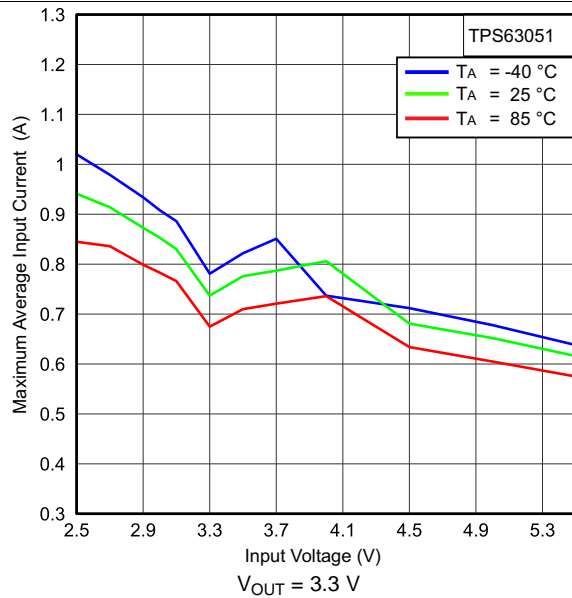
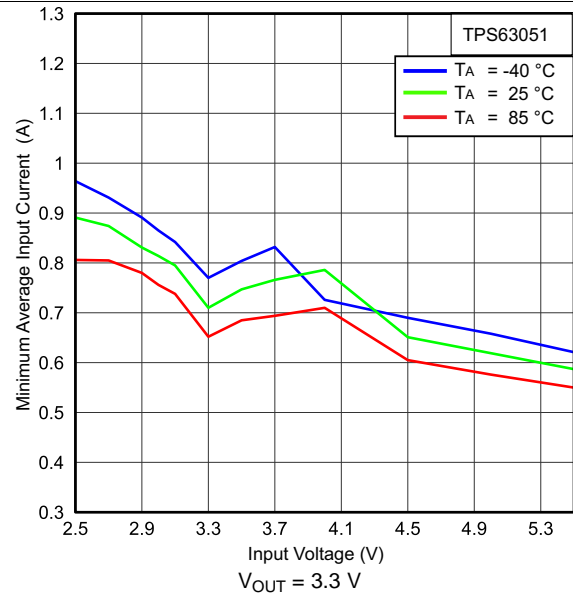

Figure 1. Maximum Average Input Current vs Input Voltage
Figure 2. Minimum Average Input Current vs Input Voltage
(1) For minimum and maximum output current in a specific working point see Figure 1 and Figure 2; and Equation 1 through Equation 4.
(2) Conditions: $f = 2.5\text{ MHz}$, $L = 1.5\text{ }\mu\text{H}$, $C_{OUT} = 10\text{ }\mu\text{F}$
The TPS6305x devices have an internal user programmable current limit that monitors the input current during start-up. This prevents high inrush current protecting the device and the application. During start-up the input current does not exceed the current limit that is set by I_{LIM0} pin and I_{LIM1} pin. Depending on the logic level applied at these two pins, switching between four different current limit-levels is possible. The variation of those values over input voltage and temperature is shown in Figure 1 through Figure 2. Adjusting the soft-start time further using the soft-start capacitor is possible.
Given the curves provided in Figure 1 through Figure 2, calculating the output current in the different condition in boost mode is possible using Equation 1 and Equation 2 and in buck mode using Equation 3 and Equation 4.
- I_{IN} = Minimum average input current (Figure 2 to Figure 2)